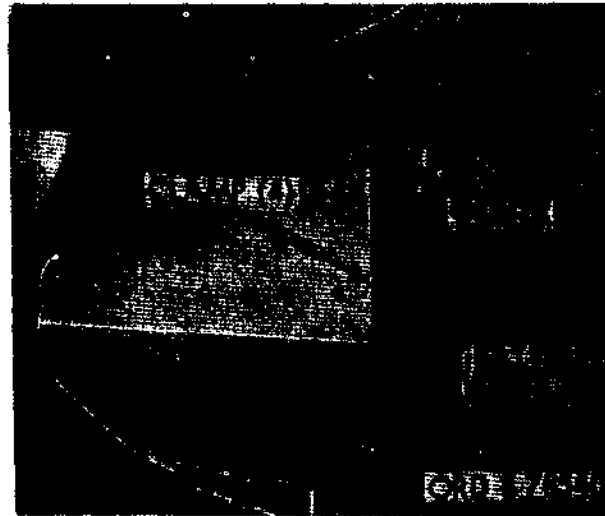

Figure 714. Installing battery box cover.
- (7) Install battery box cover on battery box by latching the four clamps (fig. 714).